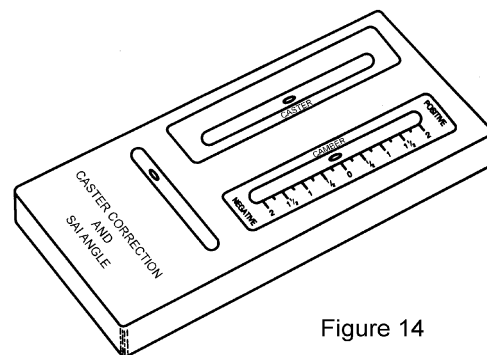

Figure 14
- 6) Read Camber at the center of the bubble on the Camber Scale. The spirit level for Camber is located on the right side of the gauge. (See Fig. 14)